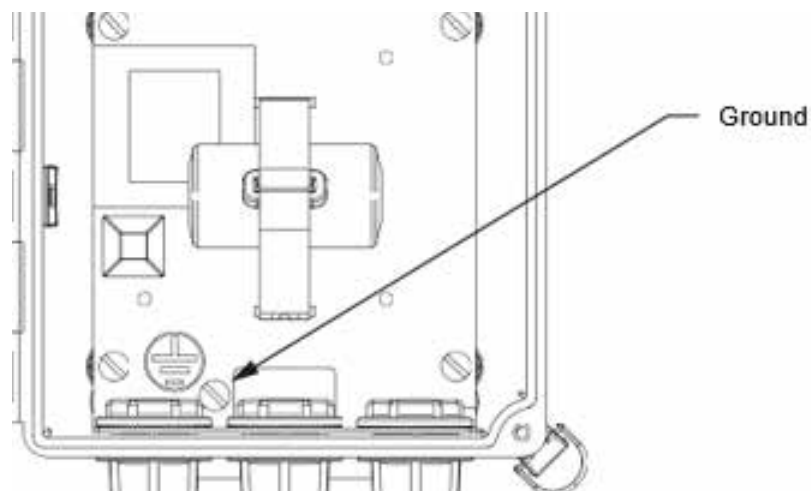

Figure 2.6—Ground connection screw (enclosure shown with door removed)
3. Connect a ground wire to the internal ground connection screw located inside the enclosure. The screw is identified with the ground symbol, as shown in Figure 2.6. For DC-powered installations, route the protective earth grounding conductor into the enclosure with the incoming power conductors.